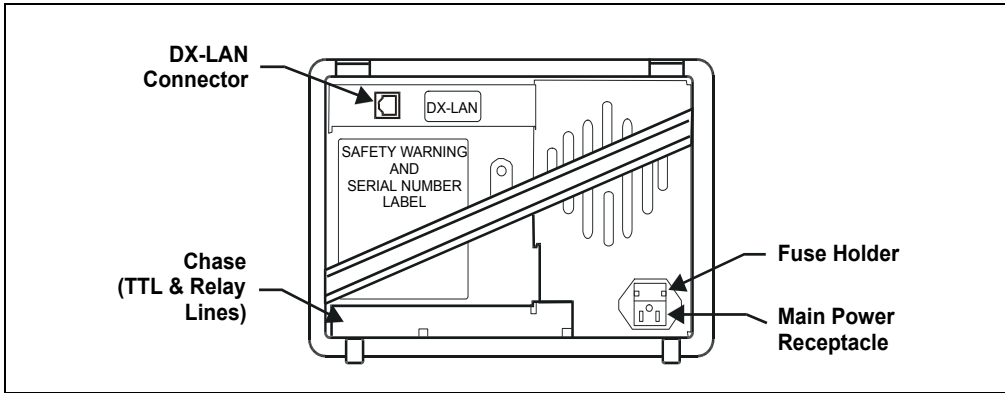

Figure B-1. Dionex ED50A Rear Panel
Connect the modular power cord (IEC 320 C13), from the main power receptacle on the rear panel (see Figure B-1) to a grounded, single-phase, power source.
When you order the DX-LAN network, a DX-LAN connector is factory-installed in the upper left corner of the Dionex ED50A rear panel (see Figure B-1).
3. Connect the other end of the cable into the 10BASE-T DX-LAN connector on the Dionex ED50A rear panel (see Figure B-1).